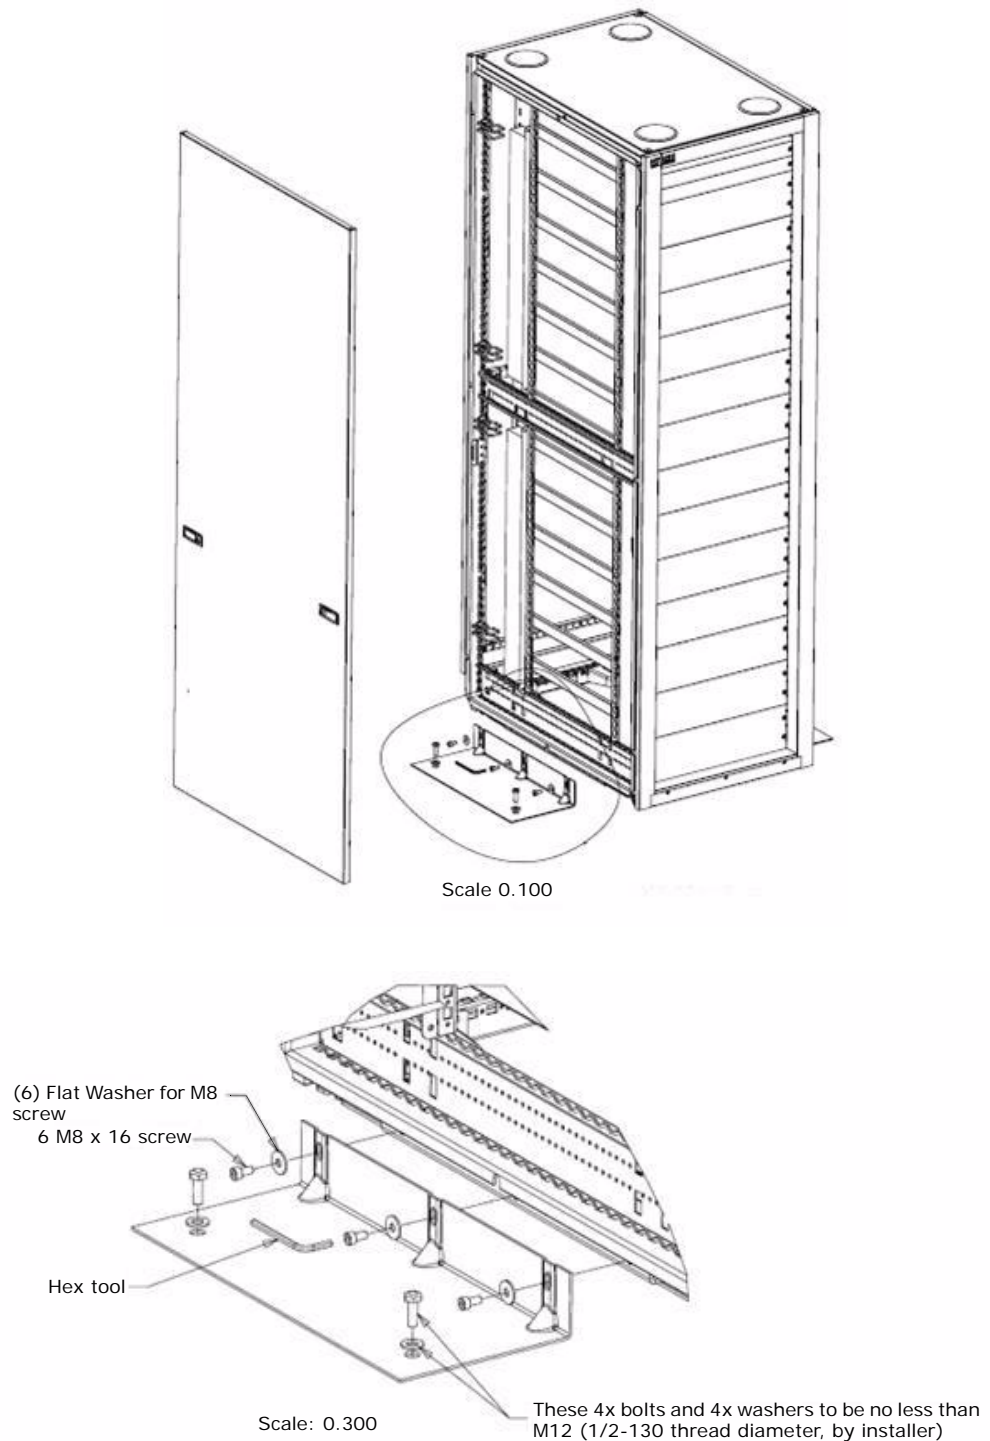

Figure 3-24: Example of Installing the Side Stabilizer Plates (Detail A)
Figure 3-24 shows an example of how to install the side stabilizer plates.
2. Place the stabilizer plate as shown in Figure 3-24 on page 3-41 so it can mate against the bracket at the bottom sides of frame and align with the holes.